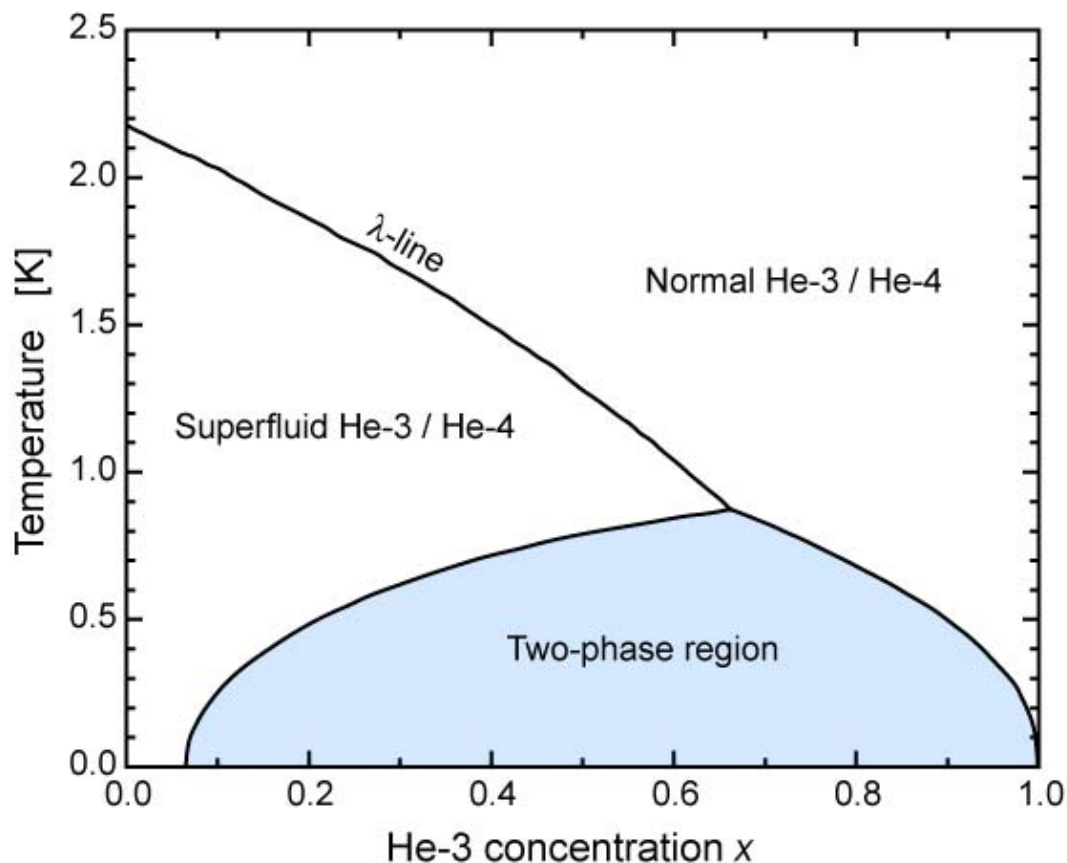
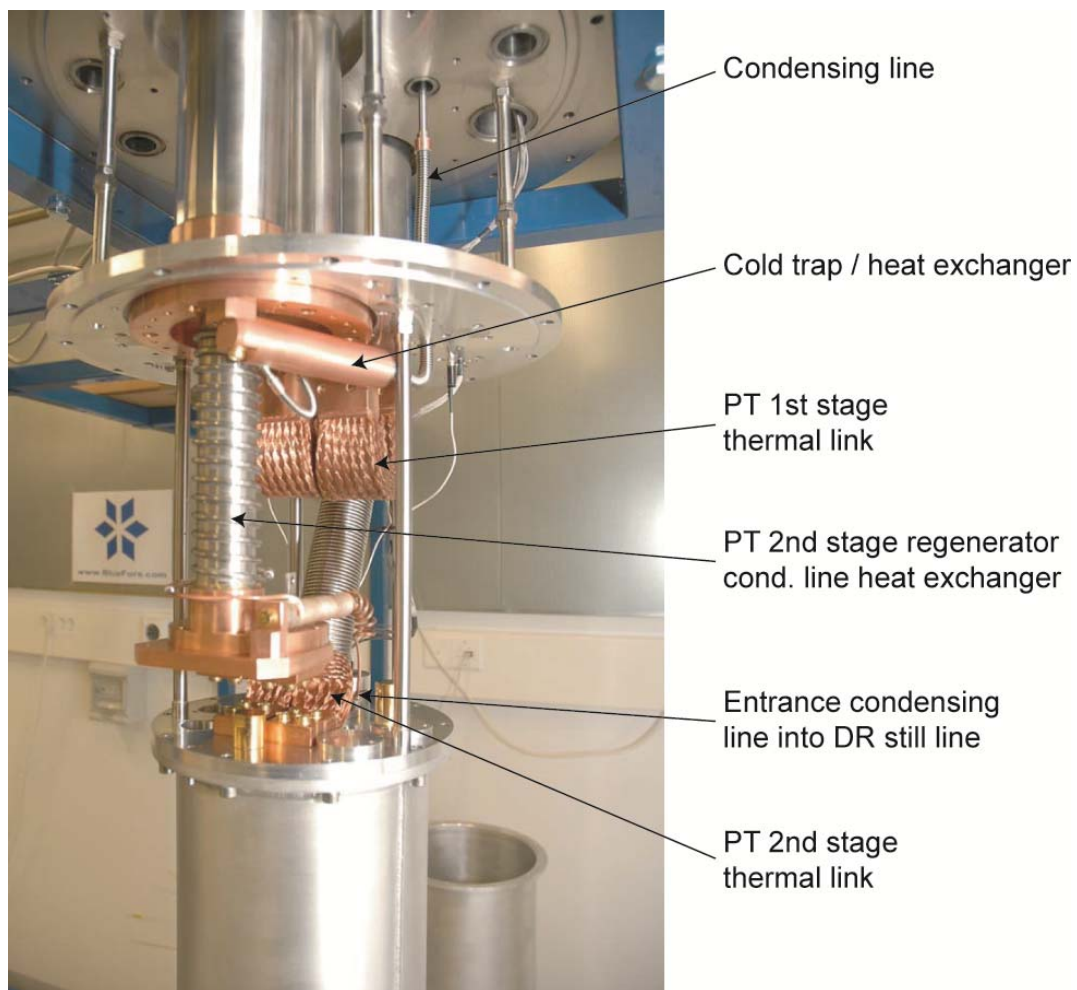
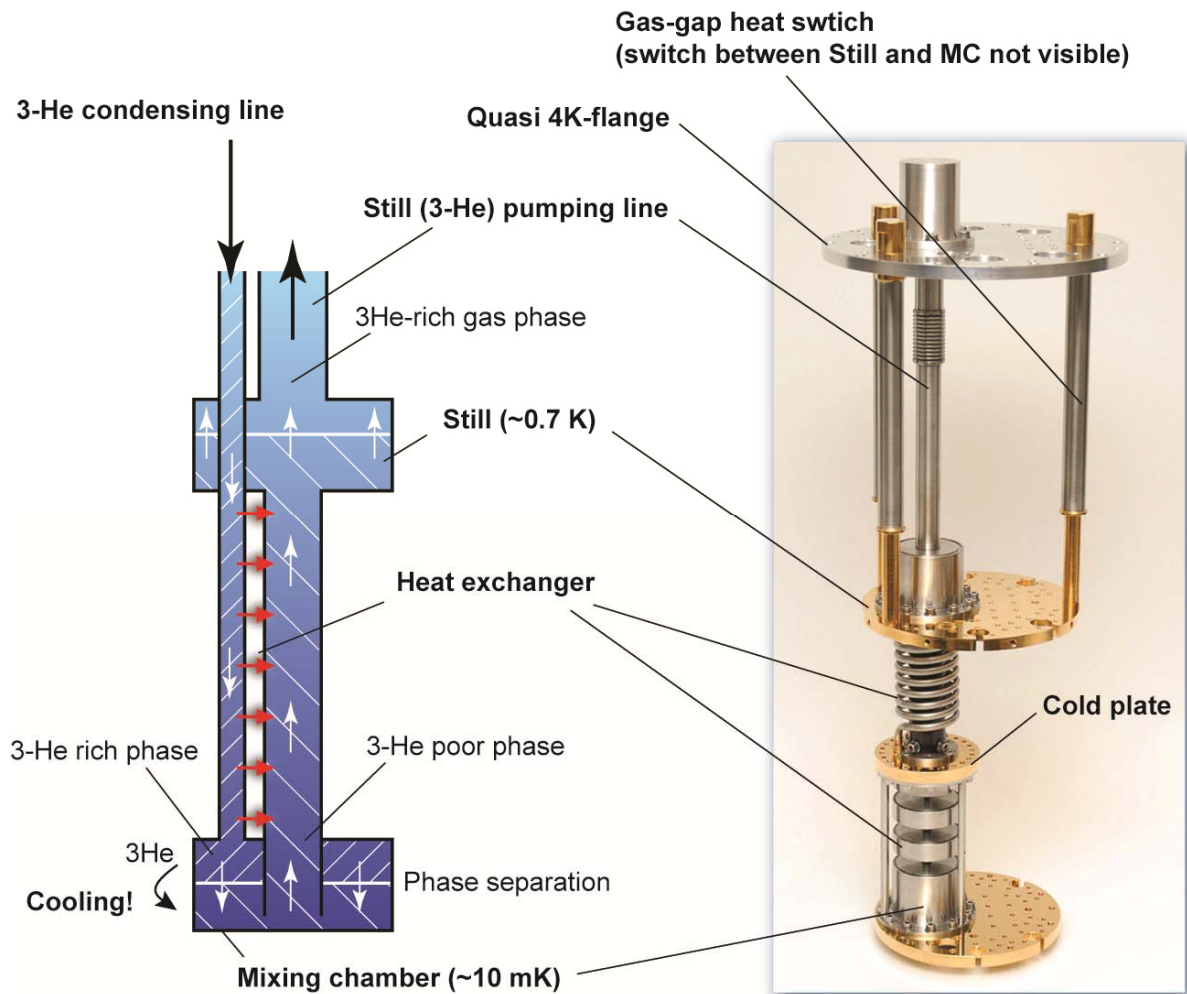

Figure 1. Phase diagram of He-3/He-4.
Figure 2. Details of 50K flanges and condensing line (model BF-SD250).
Figure 3. Dilution refrigerator principal parts.
The cooling cycle is possible due to special and fortunate properties of $^3\text{He}/^4\text{He}$ mixtures at low temperatures. At saturated vapor pressure pure ^4He undergoes a phase transition at 2.17 K from a normal fluid into a superfluid (resulting in completely different properties of the two isotopes below this transition temperature). Diluting the ^4He with ^3He results in a decreasing superfluid transition temperature, see Figure 1. At temperatures below 0.8 K (depending on concentration) the $^3\text{He}/^4\text{He}$ mixture will separate into two phases: a ^3He rich phase (concentrated phase) and a ^3He poor phase (dilute phase). Approaching absolute zero temperature, the concentrated phase becomes pure ^3He while in the dilute ^4He rich phase there
A traditional (not cryogen-free) DR is situated inside a separate vacuum can which is surrounded by liquid helium (4.2 K). Initially the DR is pre-cooled to 4.2 K by admitting exchange gas into this inner vacuum can. In addition to the pre-cool from room temperature to 4.2K, the liquid helium bath serves as a low temperature radiation shield and it pre-cools the incoming 3-He gas which is circulated in the DR. In this system the Cryomech Inc. Pulse Tube (PT) cooler delivers low enough temperatures to start the DR cycle. The flanges of the 50K and quasi-4K radiation shield are connected to the two stages of the pulse tube (see Figure 2). This is done through flexible copper braids to damp any possible vibration caused by the PT. The whole radiation shield assembly is in one common vacuum space to thermally isolate
it from its surroundings. The incoming 3-He gas is pre-cooled to <math><4.2\text{ K}</math> by different heat exchangers. First there is a cold trap at approximately 50K (see Figure 2), which takes any out any contamination of circulation by freezing it but also serves as a heat exchanger. After that the incoming gas is thermalized at the regenerator tube and the 2nd stage of the PT (see Figure 2).
Figure 3 shows the principle parts (and their typical operation temperature) of our DR: quasi 4K flange, still, heat exchangers, mixing chamber and heat switches. The heat switches are needed because our system has only one common vacuum can which makes the use of exchange gas not feasible. Hence they are used for the initial pre-cool of the DR with the PT from room temperature to low enough starting temperature (approximately 4.2 K). Heat switches (HS) are installed between the quasi 4K-
After the DR is pre-cooled to $<4.2\text{ K}$, the 3-He/4-He mixture has to be condensed into the system. With a compressor the pressure of the helium mixture is raised to about 2 bar. The heat exchangers in the incoming condensing line pre-cool the pressurized mixture to low enough temperature for it to (partly) condense after the main flow impedance of the system (because of the Joule-Thomson effect). In our system the condensing line enters the still pumping line just above the quasi 4K flange (see Figure 2). The flow impedance is located inside the top part of the still. After all mixture is condensed it makes up enough liquid to fill the mixing chamber, heat exchangers and part of the still. The DR is now started by pumping the still. The helium pumped away from the still is returned into the system through the condensing line. Pumping the still will result in evaporative cooling, dropping its temperature to $<0.8\text{ K}$. Hence phase separation of the mixture will occur (see Figure 1). Because of gravity, the heavier 4-He rich (dilute) phase will start to collect on the bottom of the mixing chamber. Eventually the dilute and concentrated phase will settle as shown in Figure 3.